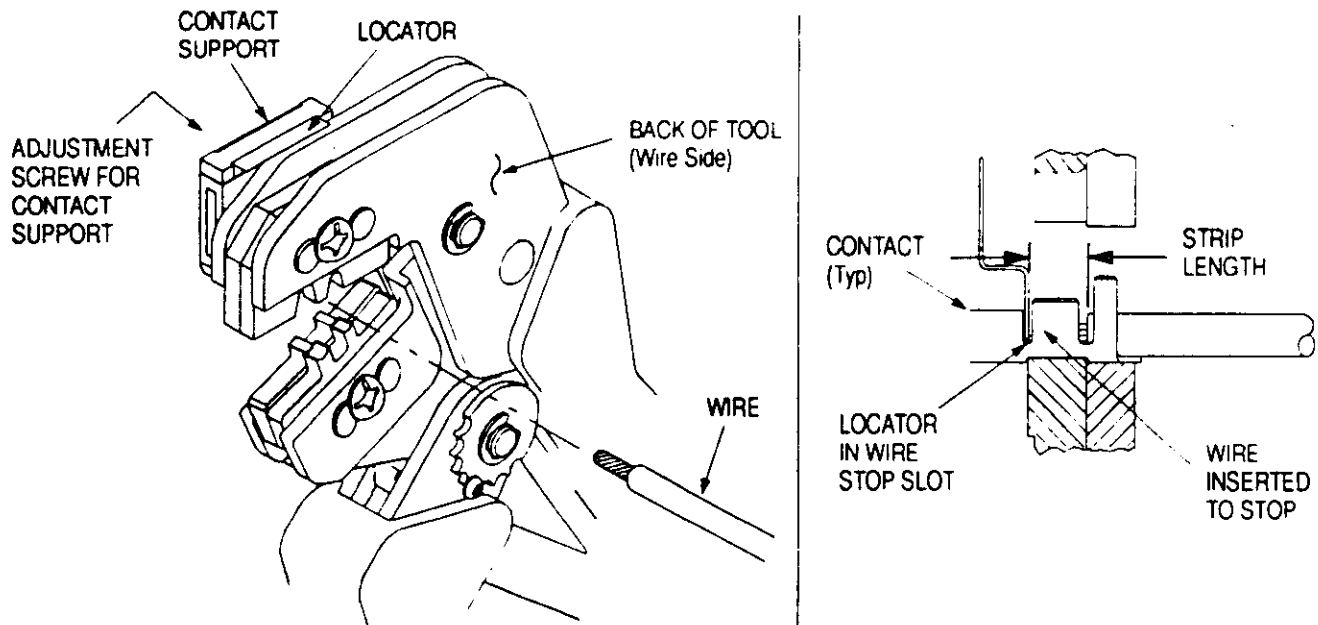

Figure 3
#### 4. CONTACT SUPPORT ADJUSTMENT (Figure 3)
Refer to the table in Figure 1 and select wire of the specified size and insulation diameter. Strip the wire to the length indicated in Figure 1, taking care not to nick or cut wire strands. Select an applicable contact and identify the appropriate crimp section according to the wire size markings on the tool. Refer to Figure 3 and proceed as follows:
3. Position the contact so that the mating end of the contact is on the locator side of the tool, and so that the open "U" of the wire and insulation barrels face the top of the tool. Place the contact up into the nest so that the movable locator drops into the slot in the contact. Refer to Figure 3. Butt the front end of the wire barrel against the movable locator
5. Insert stripped wire into contact insulation and wire barrels until it is butted against the wire stop, as shown in Figure 3.
**NOTE** *The crimped contact may stick in the crimping area, but the contact can be easily removed by pushing downward on the top of the locator (see Figure 3).*